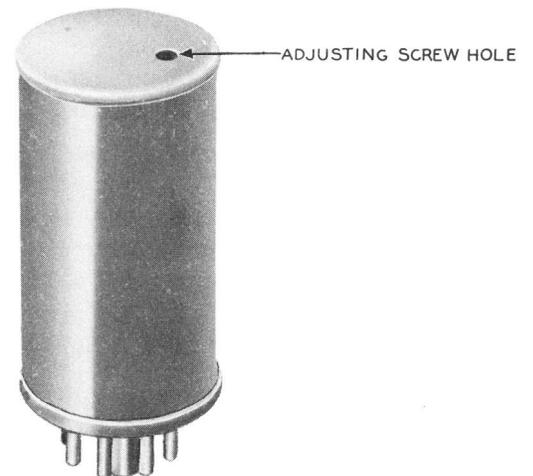

Fig. 1 — KS-16022-type Relay
(1) Fig. 1 — If the relay fails to meet the timing requirements, insert the KS-6854 screwdriver through the adjusting screw hole in the top of the relay and turn the adjusting
(1) Fig. 1 — If the relay fails to meet the operate or nonoperate requirement, insert the KS-6854 screwdriver through the adjusting screw hole in the top of the relay and turn the adjusting screw as follows. To meet the operate requirement, turn the adjusting screw clockwise slightly. To meet the nonoperate requirement, turn the adjusting screw counterclockwise slightly. If the relay cannot be adjusted to meet the requirements, replace it.